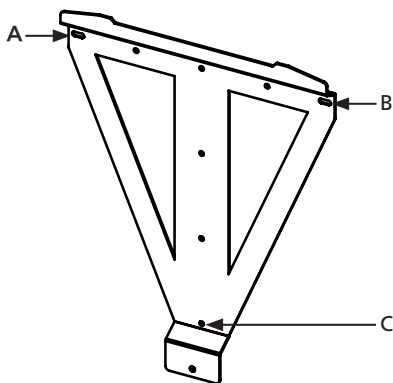

Figure 3-2 Large Mounting Bracket
- Has two top screw holes at either end of the large bracket, 16" (40.6 cm) apart which are designed to match standard stud spacing. Refer to Figure 3-2.